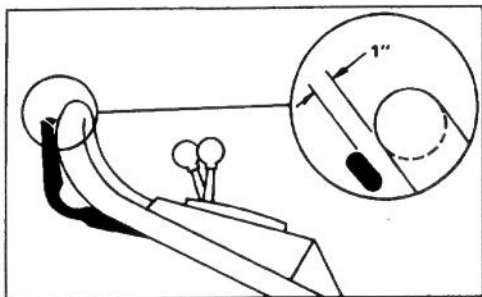

Figure 17
3. CHECK ADJUSTMENT — Slowly pull mower backward while control bar is gradually moved toward handle. Adjustment is correct when rear wheels stop turning and control bar is about 1-inch from handle (Fig. 17).